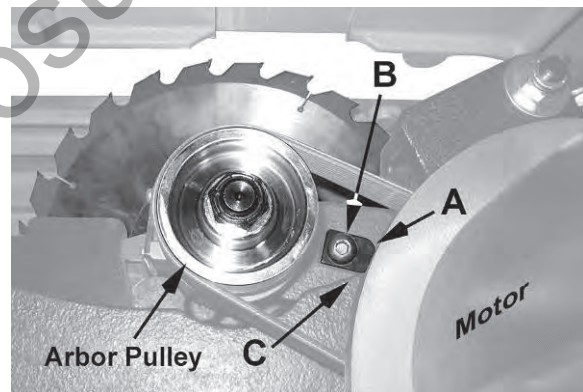

Figure 12
2. Open the side cover and locate the *blade depth stop* (A, Fig. 12) located between the *arbor pulley* and *motor*.
3. Using a 6mm hex wrench, loosen the *locking screw* (B, Fig. 12).
7. The *blade depth stop* (A, Fig. 12) should be resting against the *trunnion* (C, Fig. 12). Verify that this is the case; then tighten the *locking screw* (B, Fig. 12).